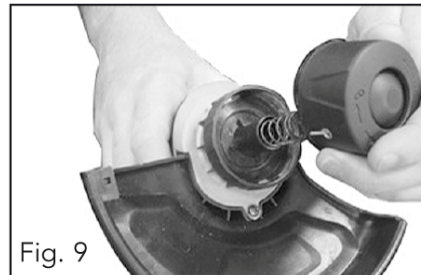

Fig. 9
2. Turn the lawn trimmer upside down and fit the spring into the spool housing. Push the spool and spool cover back into place in the spool housing. Turn the spool clockwise to lock it (fig. 9).